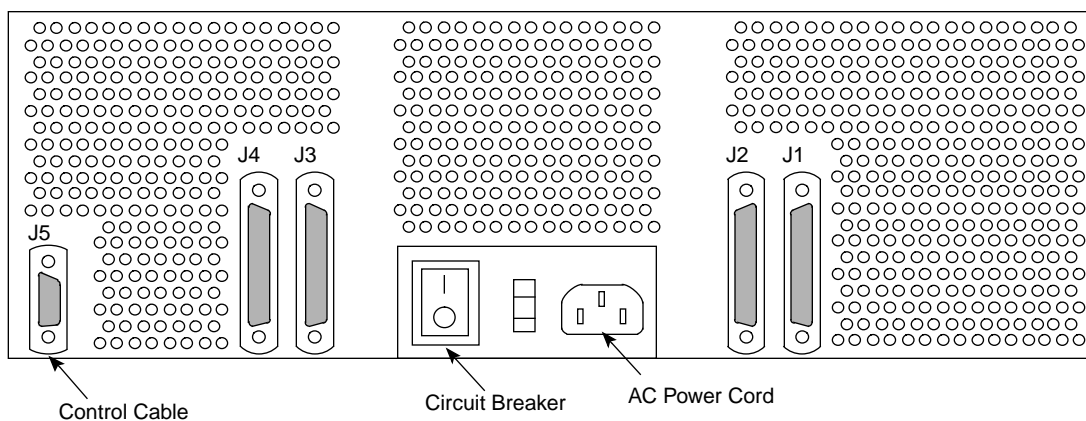

Figure 4. J1 and J3 Connections
1. Install the terminators (P/N 90266100) on J1 and J3 on the rear of the PE-10S tray as shown in Figure 4.
2. Connect the power cable (P/N 90307100) into the power cord outlet on the rear of the PE-10S tray. Refer to Figure 4.
3. Connect the control cable (P/N 90307000) into the connector labeled J5. Refer to Figure 4.
4. Connect the SCSI cables (P/N 90268100) into connectors labeled J2 and J4. Refer to Figure 4.